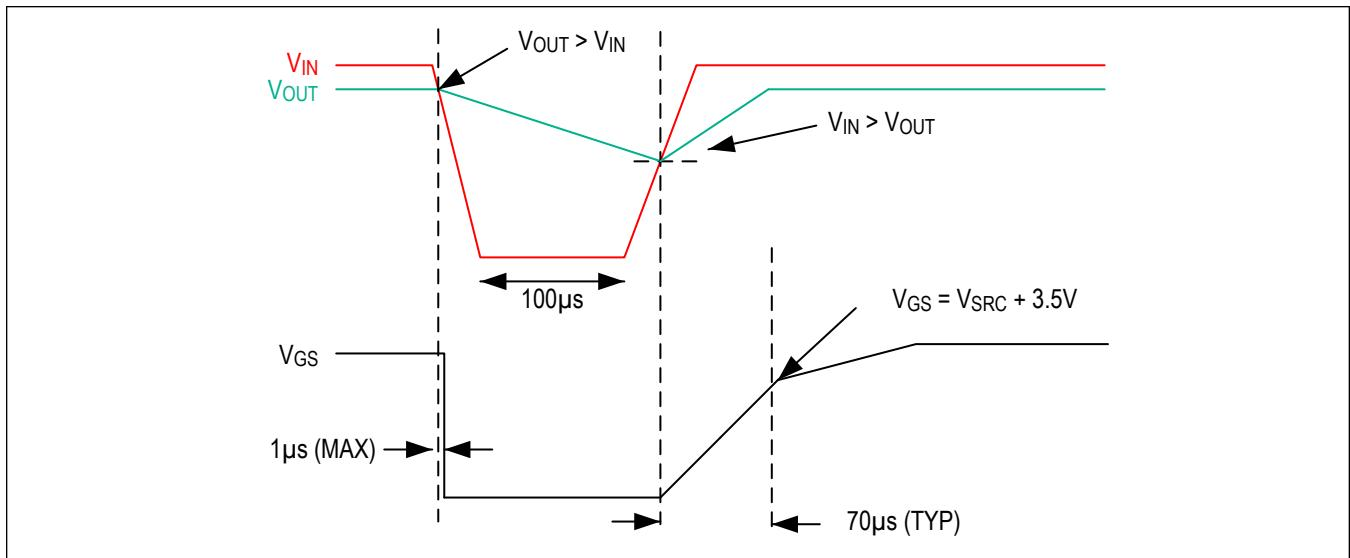

Figure 5. Short Power Interruption and Recover
In an automotive environment, systems usually experience brief power interruptions where the main supply is shorted to ground. The power interruption may last for several seconds and the only source of power to system load is the output capacitance. To ensure fast recovery, an auxiliary input (V_{CC}) helps keep the MAX16141/MAX16141A in standby mode for 100 μ s (typ). When the main supply input (IN) recovers, the MAX16141/MAX16141A initiate a fast recovery mode that allows the gate to reach its peak voltage within 70 μ s (max). See Figure 5 for more detail. Therefore, brief power supply interruptions will not affect operation of the load, as long as the load-side capacitance is sufficiently large to power the load during the interruption.